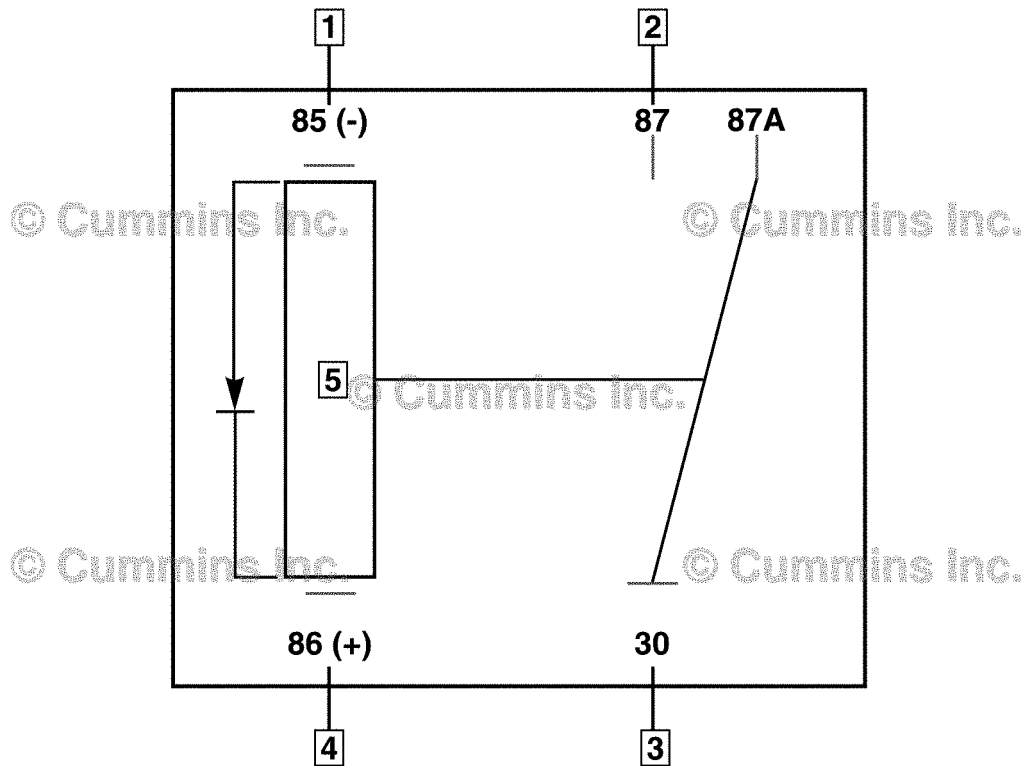

Figure 3 - Electric Fan Relay
**NOTE:** The fan signal and return wires are meant to power a relay, and **not** the fan directly. Follow the manufacture recommendation for the electric fan installation wiring and the size of the control relay. Figure 3 is a typical fan relay with **no** current flowing to pin 33, fan OFF. See the R2.8 CM2220 R101B Wiring Diagram, Bulletin 5467560, on QuickServe™ Online.